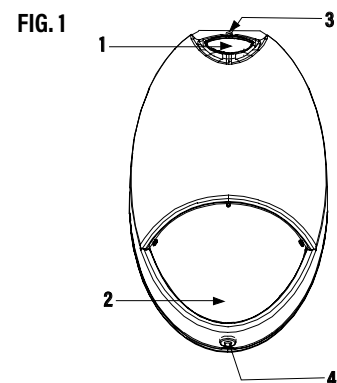

FIG. 2
1. Remove cover from the fixture with a screw driver. (Fig. 2)